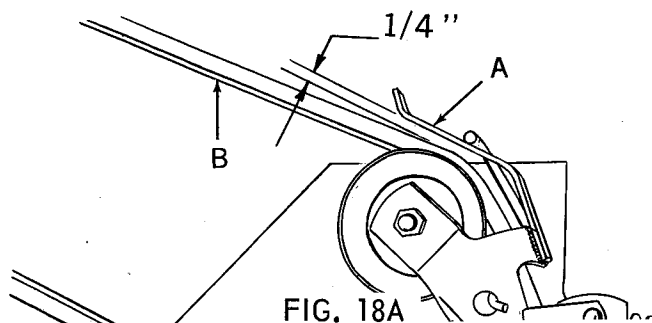

FIG. 18A
Refer to Fig. 18A. After the mower is attached to the tractor, engage mower blade clutch handle. Tractor engine must be stopped. Note the position of belt guide (A), in relation to the belt (B). Clearance must be 1/4 inch.